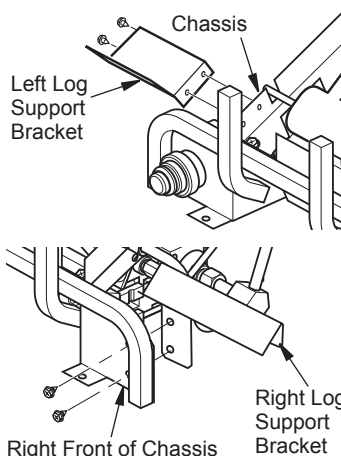

Figure 18 - Installing Log Support Brackets
1. Open equipment shutoff valve (see Figure 18).
1. Install left bracket to left side of chassis using 2 screws provided (see Figure 18).
2. Install right bracket to right front of chassis using 2 screws provided (see Figure 18). This bracket will also be used as remote control bracket if remote is installed.